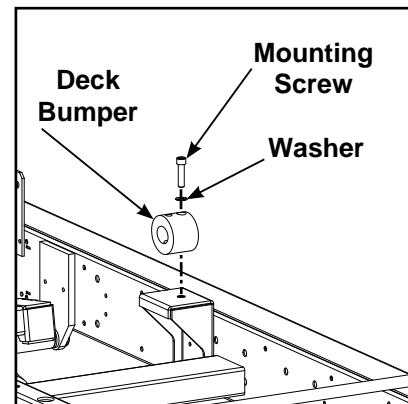

Figure 14
- A. Inspect the deck bumpers for cracks or wear. See Figure 14. **NOTE:** Unscrew and replace the rubber mounts if the rubber is cracked or worn.
- Using a 9/16" Socket wrench, remove the two mounting bolts securing the deck pivot shaft to the frame See Figure 14.
- A. Install the deck pivot brackets, bushings, wave washer and the retaining rings. See Figure 14.